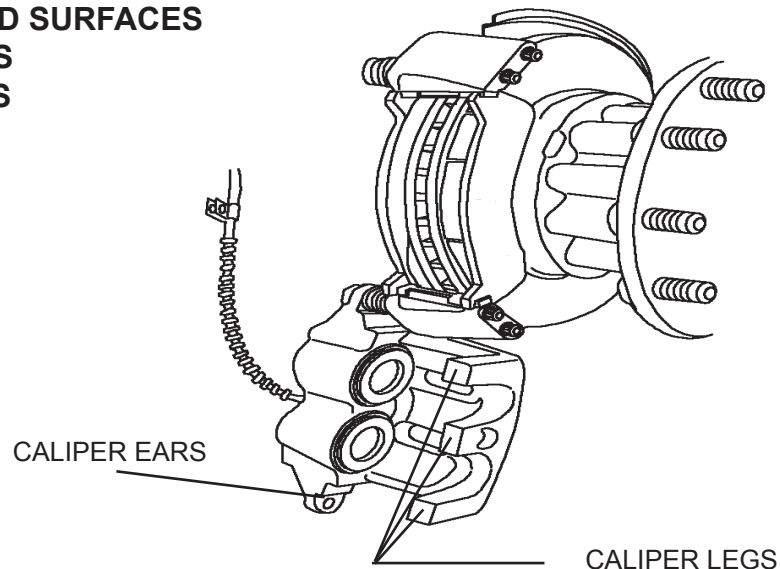

Figure 17. Clean and Inspect Caliper Machined Surfaces
8. Check machined surfaces of caliper, as shown in *Figure 17*. If any rust or corrosion is present, carefully clean surfaces with hand-held wire brush.